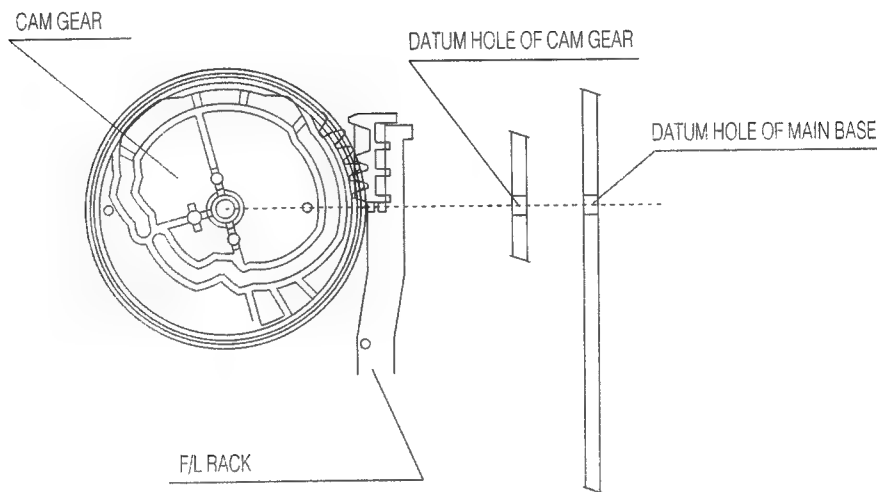

Fig.4-1 DATUM POSITION OF F/L RACK & CAM GEAR
4-1. MECHANICAL ADJUSTMENT (See Fig.4-1~4-5)
- a. Make sure that the DATUM HOLE of the CAM GEAR is aligned with the DATUM HOLE in the MAINBASE in the EJECT mode as shown in Fig.4-1.